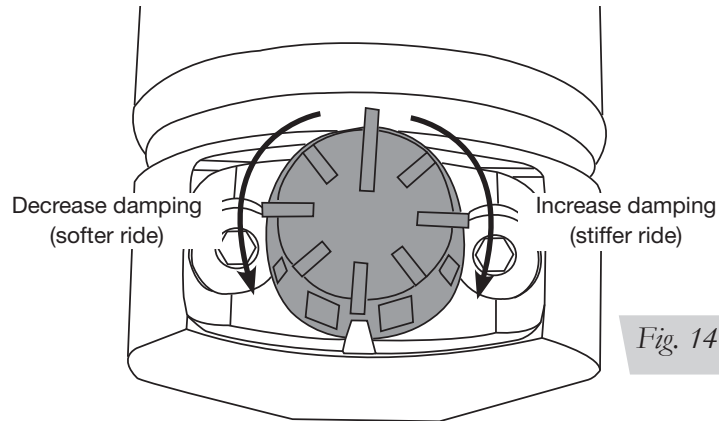

Fig. 14
1. Some struts for this application come with a nine-position damping dial for added adjustability (Fig. 14). If not, proceed to step 2.